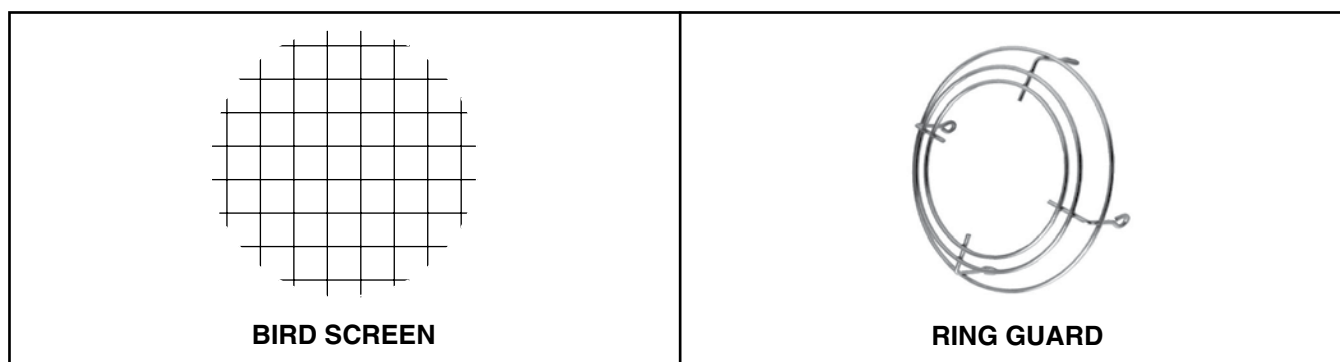

Figure 15. Option CC6 Components
- Factory-supplied components for installation of the vertical vent kit are listed in Table 16 and shown in Figure 15.